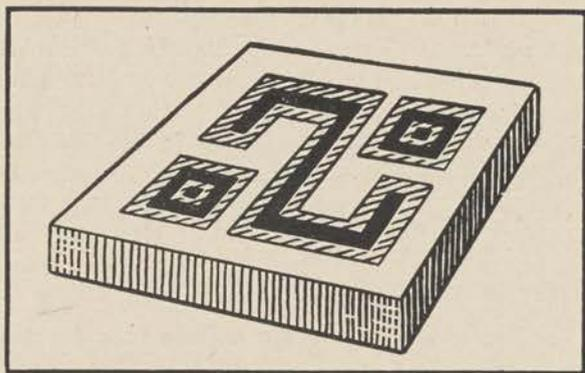

Figure 122.
b. Ordinary poster paints or the so-called tempera paints may be used on pottery (fig. 122). They dry with a flat finish and may be left thus or given a glossy surface by painting them with a nonfiring glaze. This is a varnishlike medium which makes the pottery water-proof and imitates the effect of